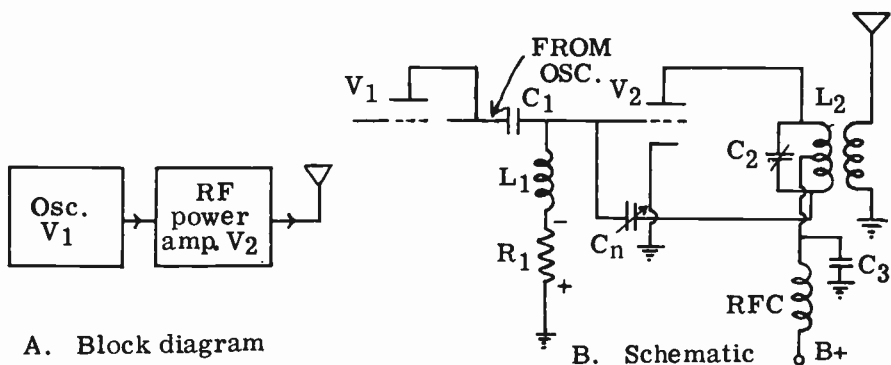

FIG. 13-3. MASTER-OSCILLATOR, POWER-AMPLIFIER TRANSMITTER.
**MASTER-OSCILLATOR POWER-AMPLIFIER.** A transmitter consisting of an oscillator and an amplifier (or a series of amplifiers) is called a **MASTER-OSCILLATOR POWER-AMPLIFIER**, MOPA for short. Such a transmitter is shown in Fig. 13-3. The output of the oscillator is amplified by  $V_2$ . Capacitor  $C_1$  prevents the high DC voltage on the plate of  $V_1$  from being applied to the grid of  $V_2$ . At the same time, it allows the RF energy to get through to the grid of  $V_2$ . The RF choke  $L_1$  prevents the RF energy from flowing to ground through  $R_1$ . This is because an RF choke opposes the flow of RF currents.
The amplifier in Fig. 13-3 may feed the antenna directly, or it may be the first of a series of RF amplifiers, the last of which feeds into an antenna system.
**GRID-LEAK BIAS.** It was mentioned above that a Class C amplifier requires a bias of from one and one-half to four times the value of cut-off bias. There are several methods of obtaining Class C bias. The first method that we shall discuss is known as GRID-LEAK BIAS. You will recall that grid-leak bias is used in the self-biased oscillator. Figure 13-3 shows the RF amplifier, V2, employing grid-leak bias. R1 is the bias resistor and C1 is the bias capacitor. Before the signal from the previous stage is applied to the grid of the amplifier tube, the bias on the grid is zero. However, when a signal is applied, a grid bias voltage develops across R1. Let us see how this comes about: On the positive half of the incoming signal, the grid is driven positive with respect to the cathode. This causes a flow of grid current, which charges up capacitor C1. On the negative half of the signal, the capacitor discharges through R1. The discharge current that flows through R1 develops a DC voltage across R1. Capacitor C1, which is effectively in parallel with R1, tends to keep this voltage constant. Since the current enters R1 at the top, (the grid side), the top part of the resistor is negative with respect to the bottom part. The top of the resistor is connected to the grid. Therefore, the